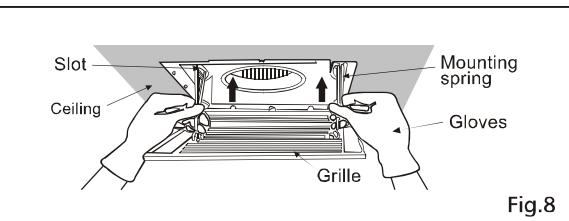

Fig.8
10. Insert the mounting springs into the slot as shown and mount grille to fan body. (Fig.8)